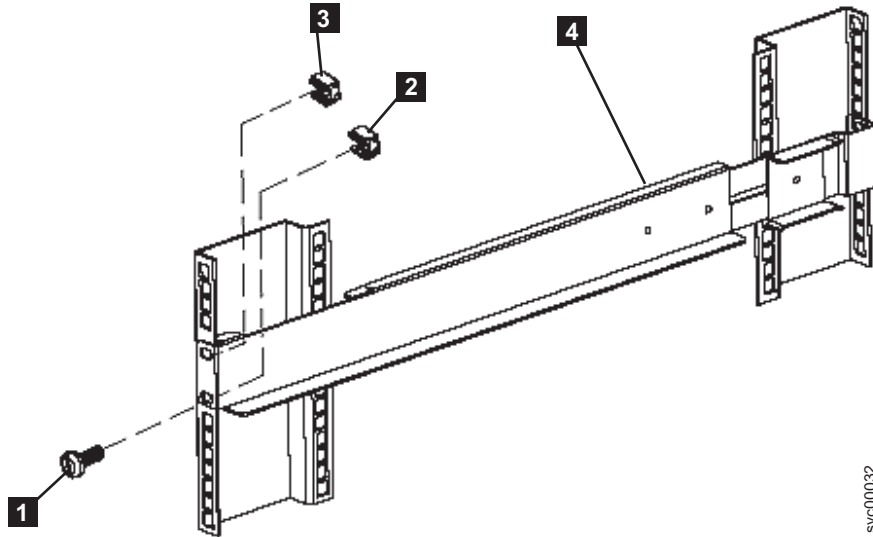

Figure 28. Securing the front rail on the 2145 UPS-1U
7. Attach only the bottom hole of the rail to the front of the rack with one M6 × 10 screw and one clip nut (see **1** in Figure 28 on page 52).